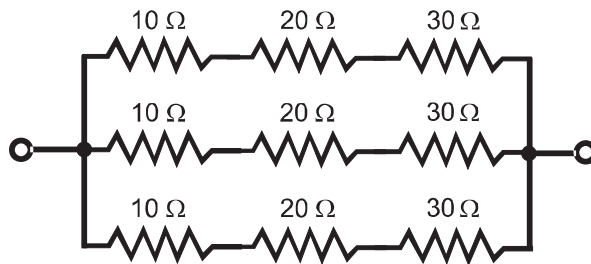

Fig. 1-11. Illustration for Quiz Questions 2 through 5.
2. What is the DC resistance between the two end terminals of the series-parallel network shown in Fig. 1-11?
3. Suppose a battery that supplies 6 V is connected to the end terminals of the series-parallel resistive network shown in Fig. 1-11. What is the current through the 10 Ω resistor at the upper left?
4. Suppose a battery that supplies 12 V is connected to the end terminals of the series-parallel resistive network shown in Fig. 1-11. What is the voltage across the 20 Ω resistor at the center?
5. Suppose a battery that supplies 24 V is connected to the end terminals of the series-parallel resistive network shown in Fig. 1-11. What is the power dissipated by the 30 Ω resistor at the lower right?